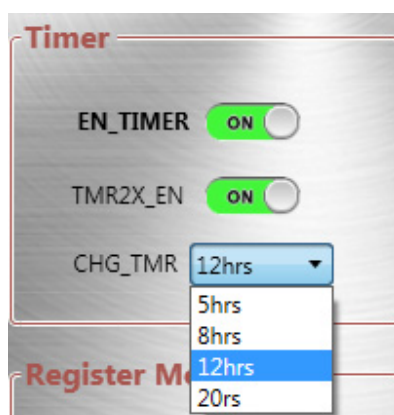

Figure 19: Setting the Charge Timer
- The default value is 12hrs (see Figure 19).